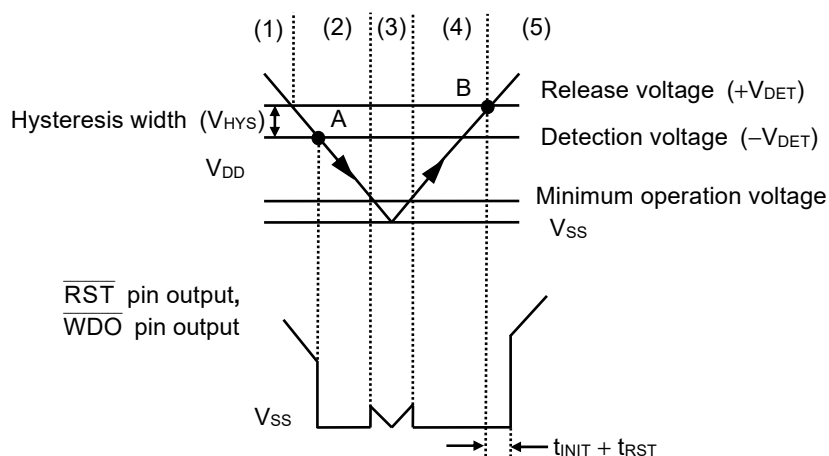

Figure 32 Timing Chart of Voltage Detector Circuit
- (1) When the power supply voltage (V_{DD}) is release voltage ($+V_{DET}$) of the detector or higher, the Nch transistor (N2) is turned off and "H" is output to the \overline{RST} pin. Since the Pch transistor (P1) is turned on, the input voltage to the comparator (C1) is $\frac{R_B \cdot V_{DD}}{R_A + R_B}$.
- (2) Even if V_{DD} decreases to $+V_{DET}$ or lower, "H" is output to the \overline{RST} pin when V_{DD} is the detection voltage ($-V_{DET}$) or higher. When V_{DD} decreases to $-V_{DET}$ (point A in **Figure 32**) or lower, N2 which is controlled by C1 is turned on, and then "L" is output to the \overline{RST} pin. At this time, P1 is turned off, and the input voltage to C1 is $\frac{R_B \cdot V_{DD}}{R_A + R_B + R_C}$.
- (3) If V_{DD} further decreases to the IC's minimum operation voltage or lower, the \overline{RST} pin output is "H".
- (4) When V_{DD} increases to the IC's minimum operation voltage or higher, "L" is output to the \overline{RST} pin. In addition, even if V_{DD} exceeds $-V_{DET}$, the output is "L" when V_{DD} is lower than $+V_{DET}$.
- (5) When V_{DD} increases to $+V_{DET}$ (point B in **Figure 32**) or higher, N2 is turned off, and "H" is output to the \overline{RST} pin after elapse of $t_{INIT} + t_{RST}$.